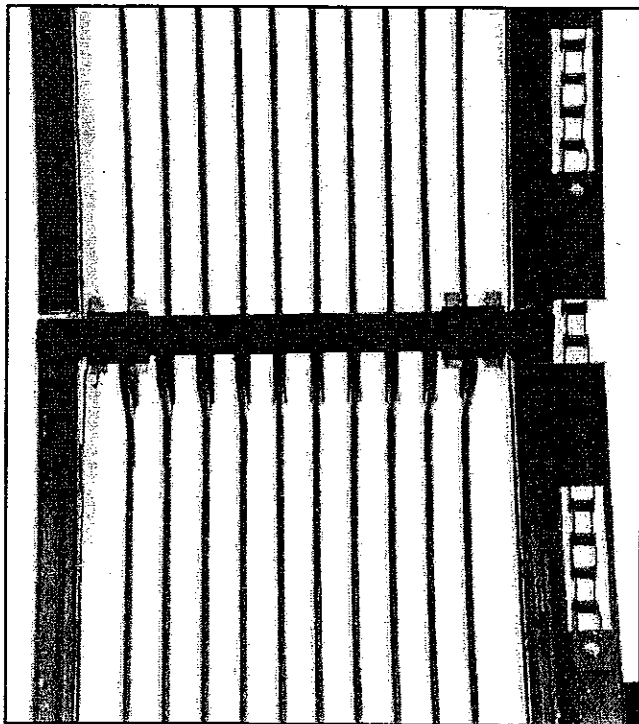
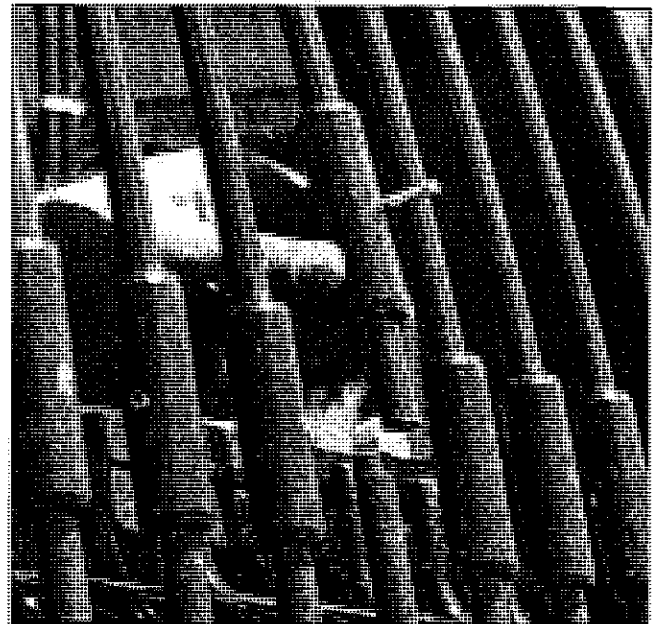

Figure 3.13: Wheel Elevator Joint.
Figure 3.14: Rod Connector Installation.
Attach the two (2) wheel halves together with twelve (12) 5/8" x 3-1/2" bolts and twelve (12) rocker straps, flat side towards nuts and bolt heads. Make sure the side tabs interlock properly (four places) where the halves join (see Figure 3.13).
IMPORTANT: Make sure the rail that rides on the rollers is aligned end to end when bolting the halves together. Use C-clamps or similar device to align the rails (see Figure 3.13). It may be necessary to grind rail ends in insure alignment of halves.
Install the rod connectors between the two (2) wheel halves as shown (see Figure 3.14). Adjust the three (3) left hand rollers so they just touch the 2 x 2 tube of the wheel elevator. Free the wheel and turn it manually through several revolutions to make sure nothing is interfering with it. Adjust left hand rollers so they all contact the wheel. Adjust the right-hand rollers so they are about 1/8"-1/4" away from the drive band of the wheel elevator at its closest point. Make sure tabs in chain slots (see Figure 3.13) are properly installed.